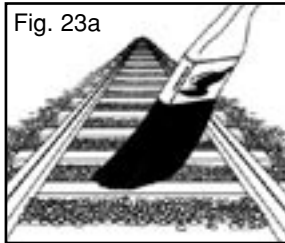

Fig. 23a
E. Spread the Ballast evenly with a dry paintbrush until it is even with the ties (Fig. 23a).